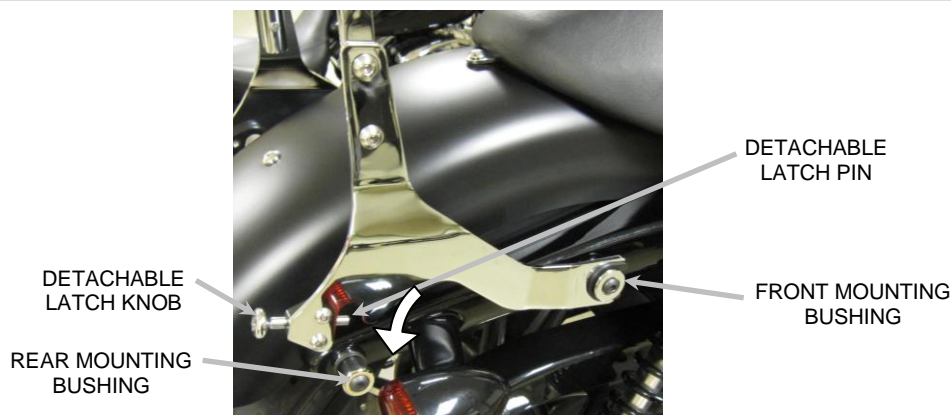

FIGURE 5
7. Install the sissy bar onto the bike by first inserting the front portions of the side brackets on to the front mounting bushings on the frame rails. Make sure the sissy bar is seated all the way onto the mounting bushings. See **FIGURE 5**.
8. Then slowly rotate the sissy bar downward so the rear portions of the brackets slip over the rear mounting bushings. See **FIGURE 5**.